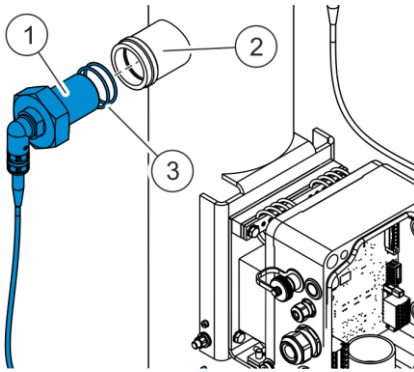

Fig. 67: Removing transmitter and O-rings
12. Set the O-rings (Fig. 67/3) aside where they cannot be lost.
13. Clean the assembly opening of the oil mist ventilation pipe (Fig. 67/2) on the inside.